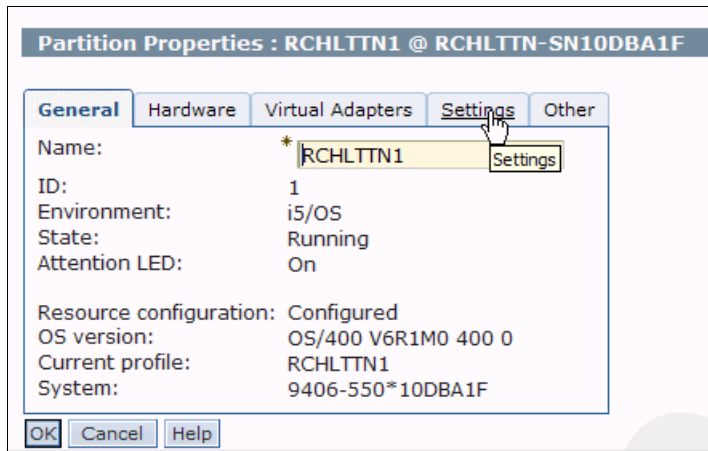

Figure 5-7 Partition Properties window
b. In the Partition Properties window (Figure 5-7), select the Settings tab.